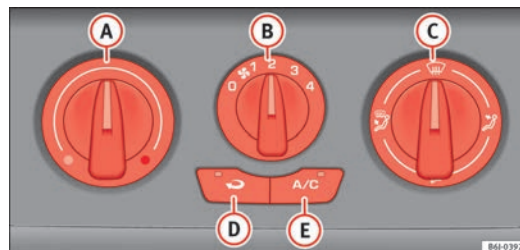

Fig. 108 Air conditioning controls on the dash panel.
- Controls ⇒ Fig. 108 **A** and **C** and control **B** regulate the temperature, blower speed and air distribution.